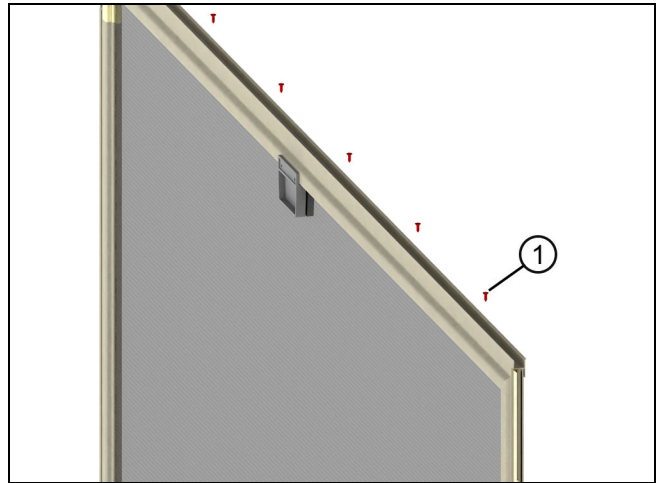

Figure 6
3. Fasten the screws in the pre-drilled holes. See Figure 6.